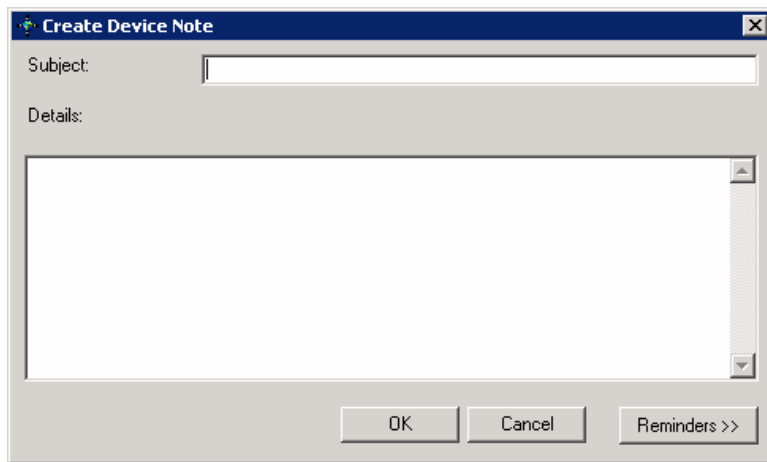

Figure 4-30 Create a New Note
2. Select the **Create Note** option. The Create Device Note window displays (refer to Figure 4-30 Create a New Note).